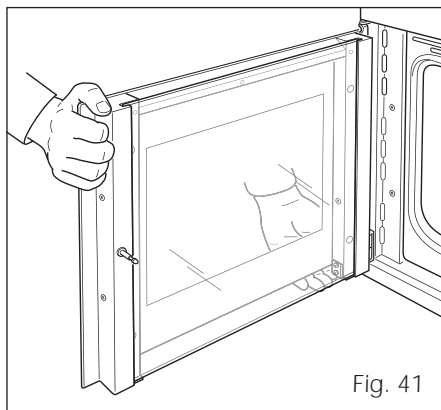
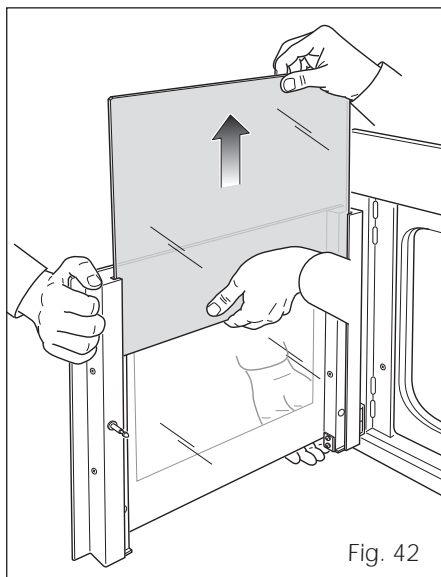

Fig. 41
Fig. 42
When removing and replacing the inner glass, the door should be held still by one person (fig. 41). A second person should gently remove the glass (fig. 42).
- Gently pull out the inner pane of glass (Fig. 42). Forcible removal of the door glass may lead to damage of the door hinges.